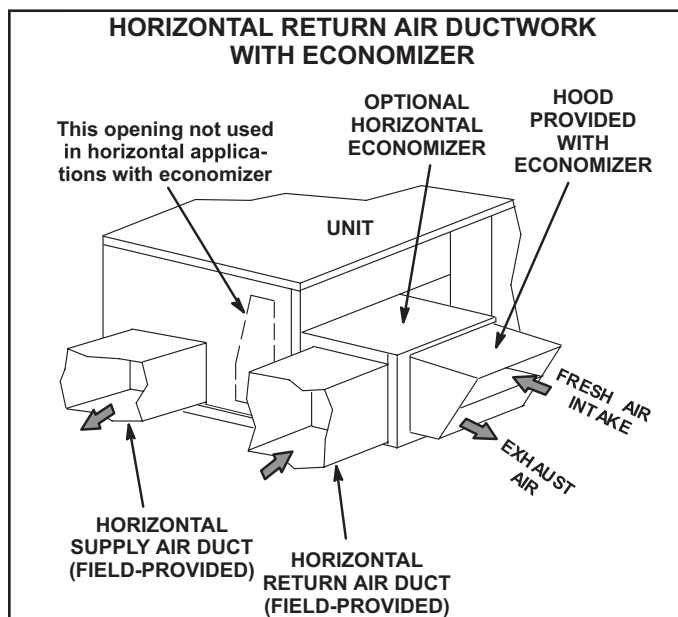

FIGURE 5
- 4 - Install return air duct on the intake air side of the horizontal economizer. See FIGURE 5.